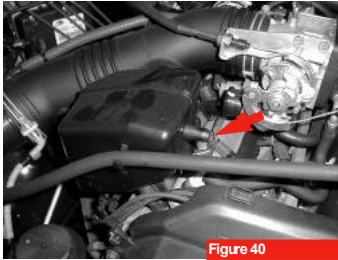

Figure 40
2. Place the rubber plug on the open air box nipple (see arrow, figure 40).